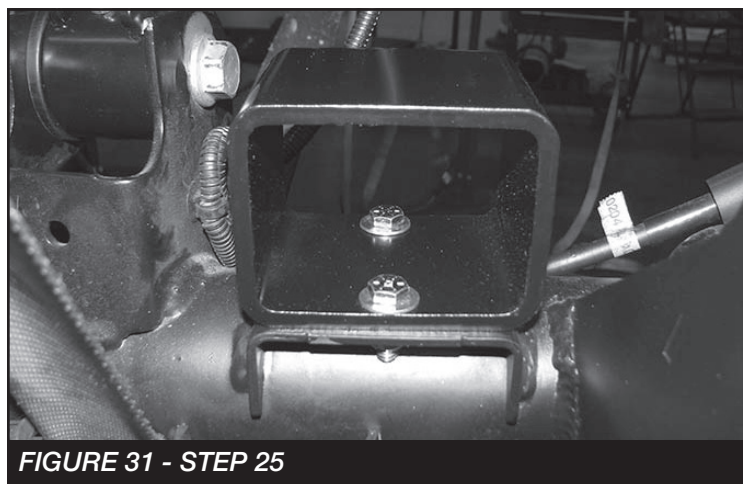

FIGURE 31 - STEP 25
25. Locate FT50724 Rear Bumpstop Spacer. Position the spacer onto the factory bumpstop pad on the axle and attach with the supplied 5/16" x 1" bolts and hardware. **SEE FIGURE 31**